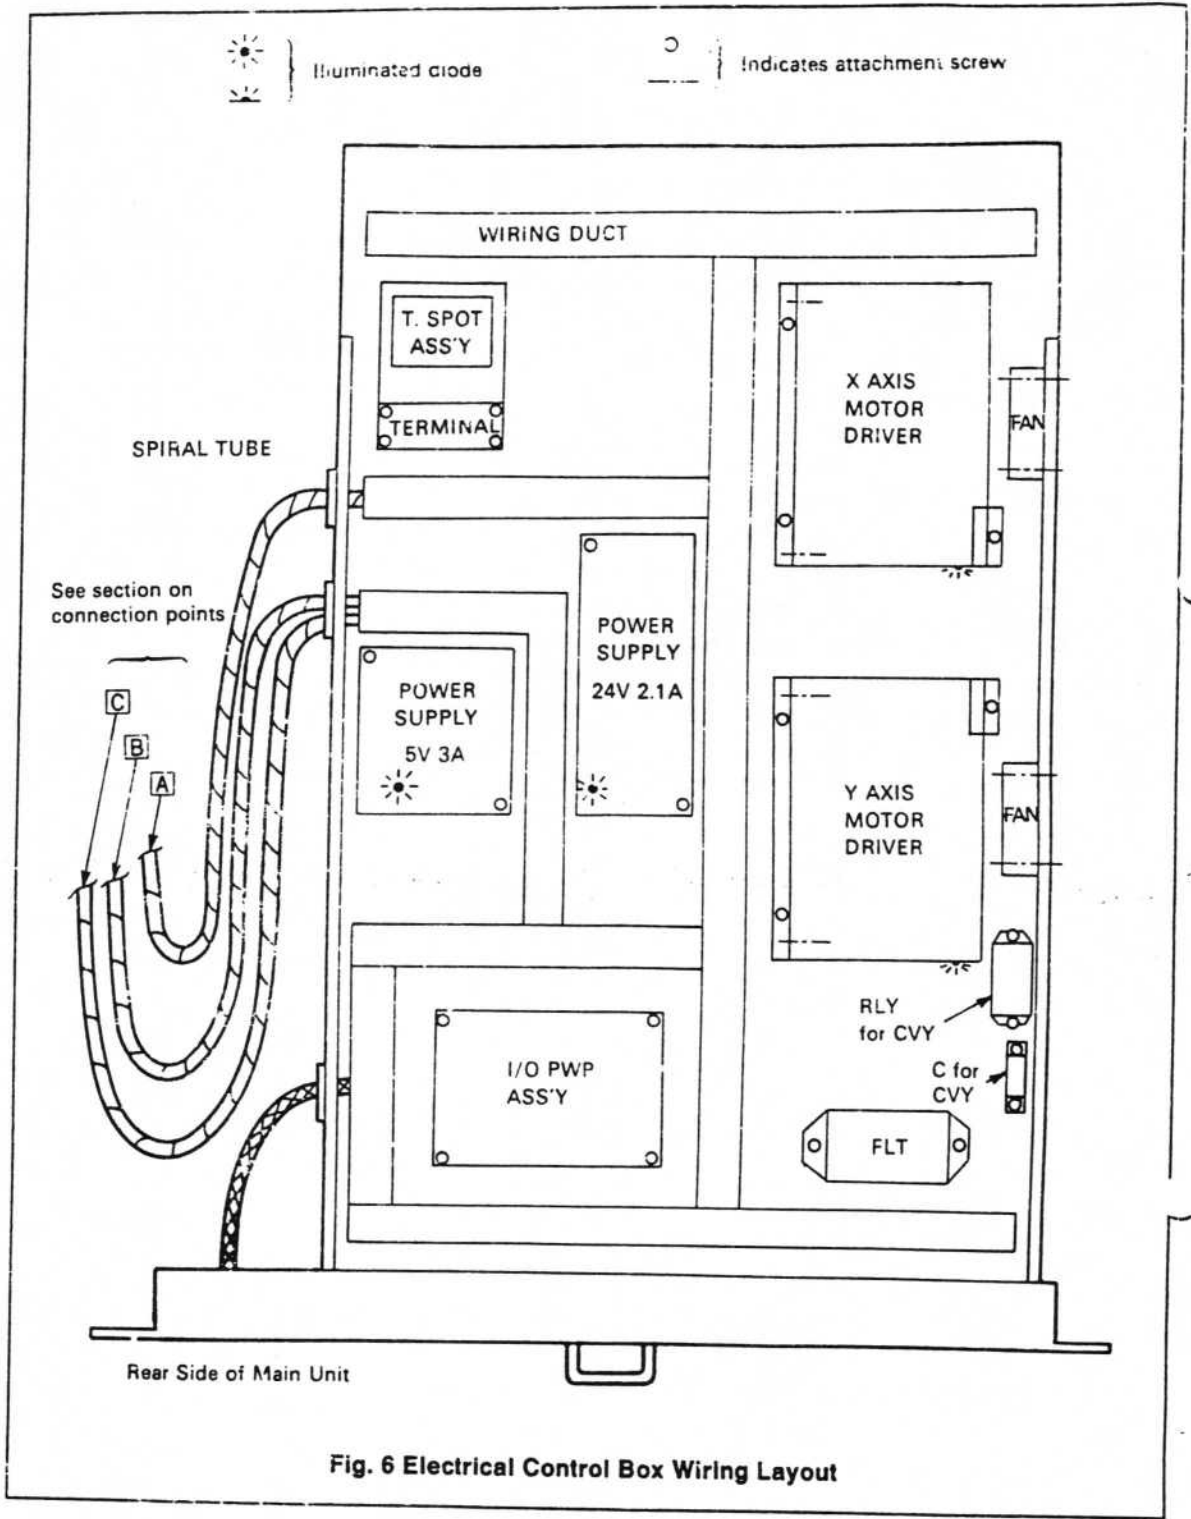

Fig. 6 Electrical Control Box Wiring Layout
- 7) The wiring inside the control box looks like Figure 6.